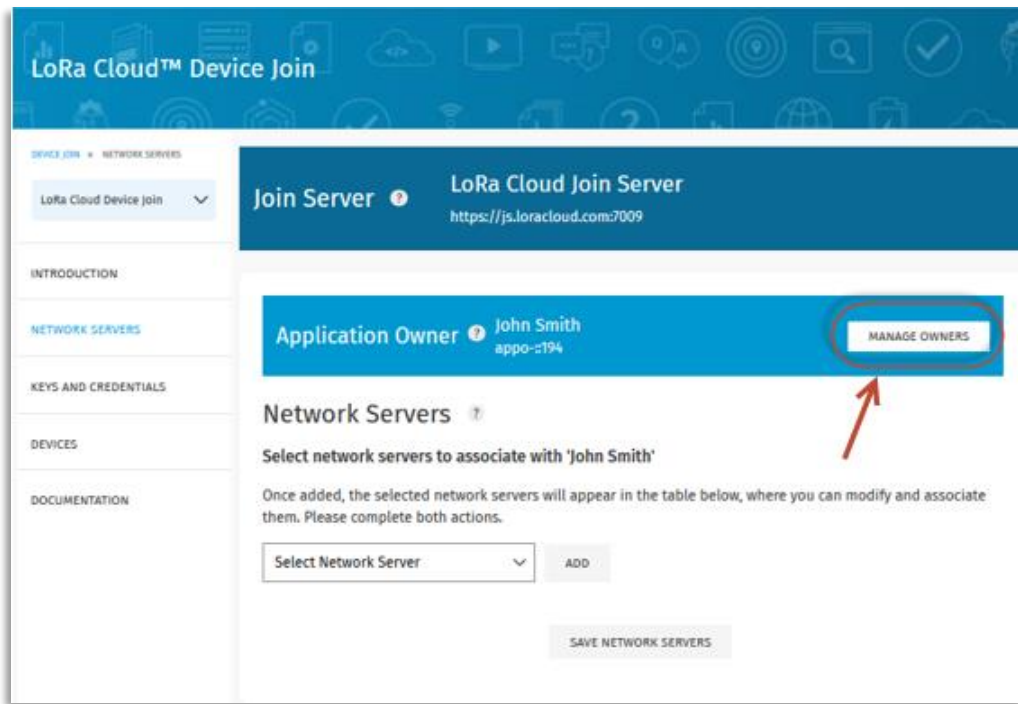

Figure 71: Application Owners - Manage Owners
4. To create an Application Owner, click **Manage Owners** (Figure 71)